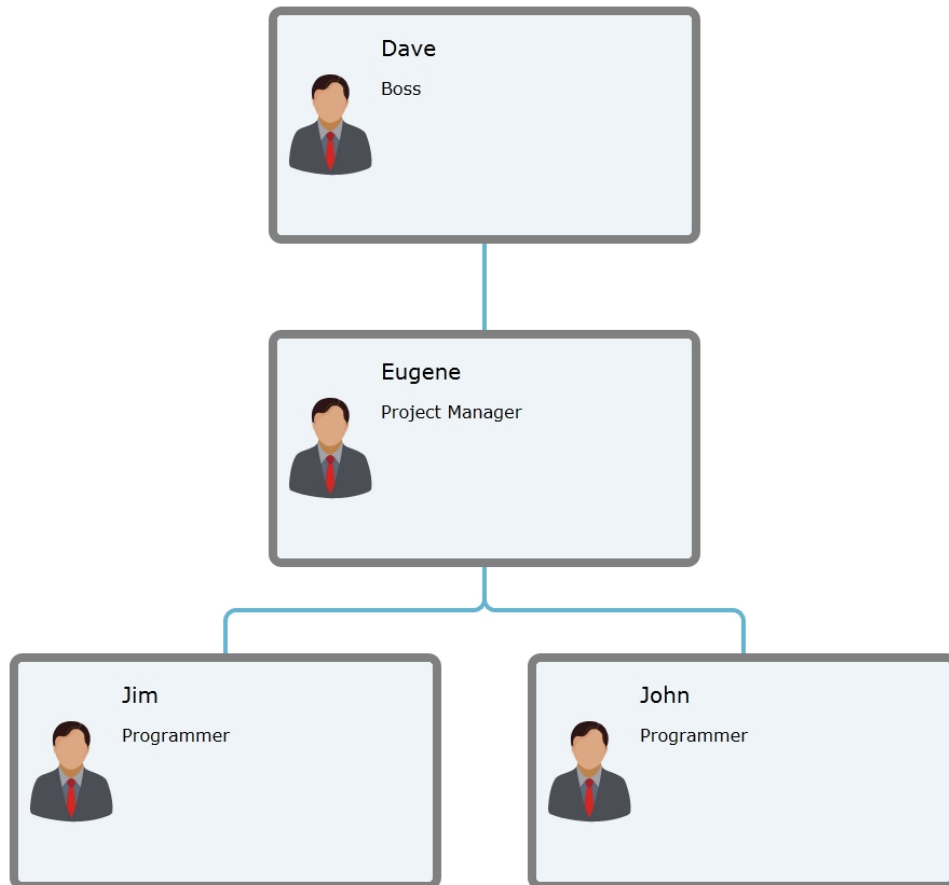

Figure 1: The Organization diagram that will be used for the following lessons
- 2) Create the organization diagram like the one from Figure 1